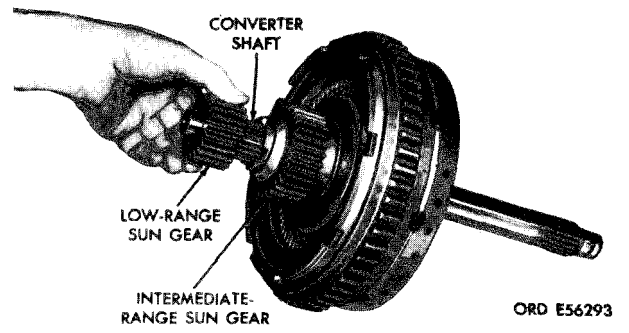

Figure 5-72. Installing low-range sun gear.
(1) Install two hook-type seal rings (11) and retainer snap ring (12) on shaft assembly (8).
(2) Insert long splined end of converter turbine shaft assembly (8) in pitot collector side of high-range clutch housing assembly (22).
(3) Install intermediate-range sun gear and low-range sun gear on converter shaft (fig. 5-72).